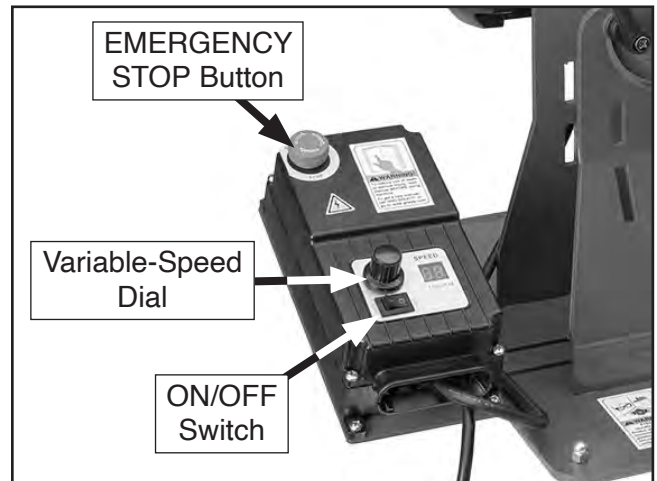

Figure 16. Location of power controls.
6. Press EMERGENCY STOP button in (see **Figure 16**).
7. Move ON/OFF switch to OFF position (see **Figure 16**).
8. Turn variable-speed dial all the way counter-clockwise (see **Figure 16**).